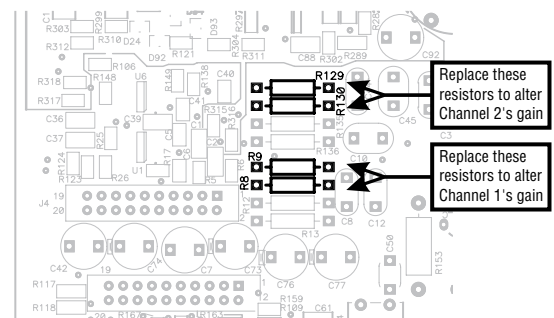

Figure 1. Locating resistors R8, R9, R129, and R130
3. To change the gain of Channel 1, locate resistors R8 and R9 (Figure 1). Replace them with matching resistors that will provide the desired voltage gain (see table above right).
4. To change the gain of Channel 2, locate resistors R129 and R130 (Figure 1). Replace them with matching resistors that will provide the desired voltage gain (see table above right).